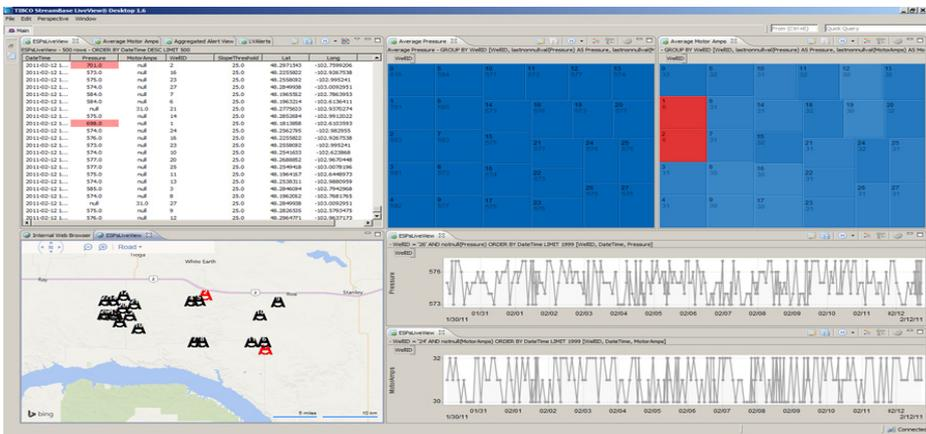

Fig. 5. Real Time Monitoring of Well Status from Sensor Data in StreamBase LiveView
- Deployment of models to real-time analytics systems, using Streambase (Figure 5)